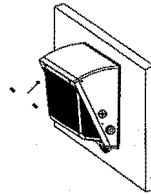

Fig. 19
15. Plug the two silicone caps back to the front-cover. (Fig.19)